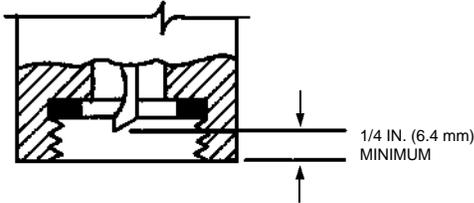

FIGURE 14
- a. When removing actuator from the carton, check pin to make certain it is in the upright position. See Figure 14.